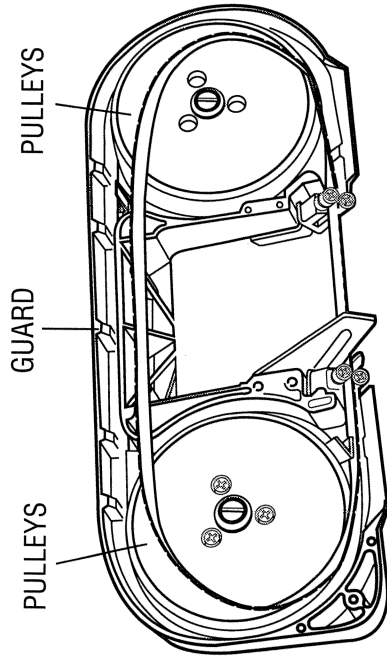

Figure 8
- C. Holding the blade in the guides, place it around both pulleys and through the guard, as shown in Figure 8.